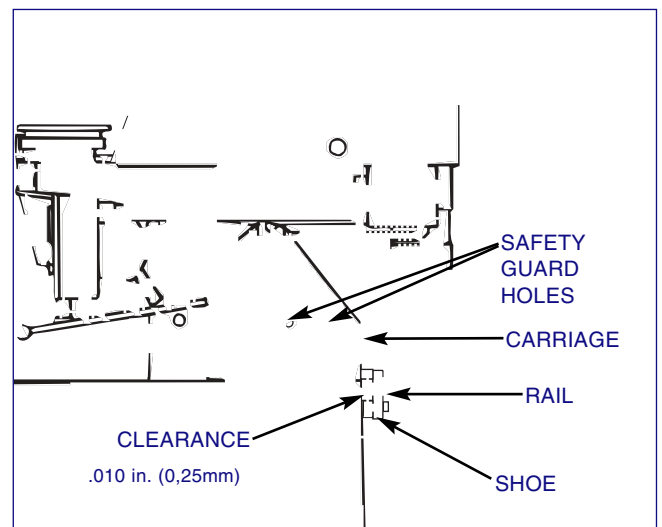

FIGURE 1-2, Overarm
2. With packing material removed from under carriage and carriage roller in contact with top rail, set Shoe to have .010 in. (0,25 mm) clearance with bottom of rail (see Figure 1-2).
2. Use hoist to lift guard into position and align hole in guard brackets with threaded holes in machine carriage (refer to Figure 1-2).